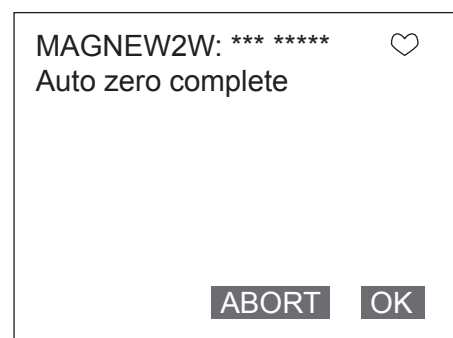

Figure 7-13
4. Once zero point adjustment is completed, Figure 7-13 is displayed. Press F4 (OK) and return to the online menu.